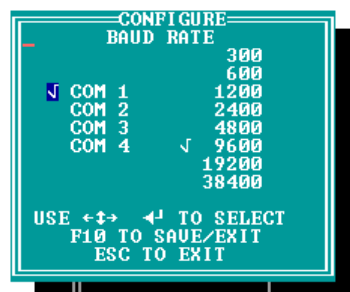

FIG. 1 CONFIGURE BAUD RATE window
1. Press F1 and the CONFIGURE BAUD RATE window appears (FIG. 1).